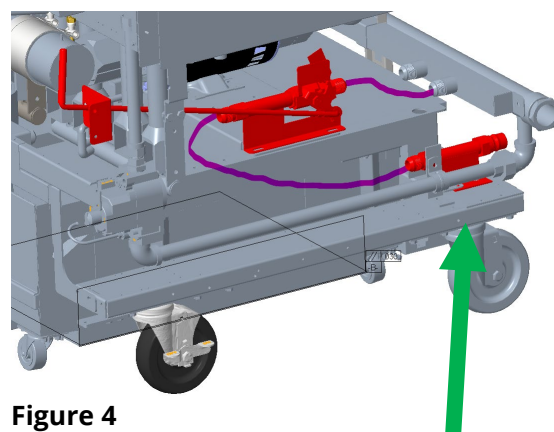

Figure 4
8. Attach the outlet of the quick disconnect assembly to the frame (see green arrow in Figure 4).